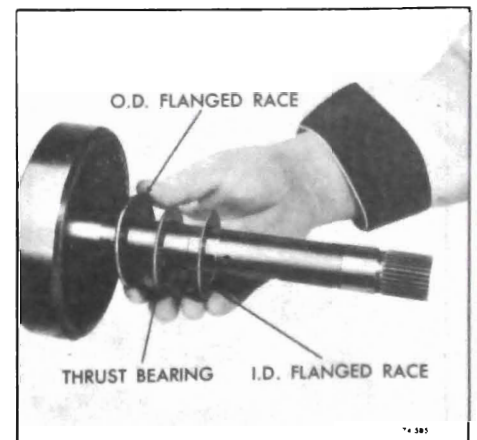

Figure 76-585
3. Install sun gear to internal gear thrust races and bearings against the inner face of the rear internal gear as follows: and retain with petroleum jelly. See Figure 76-585.